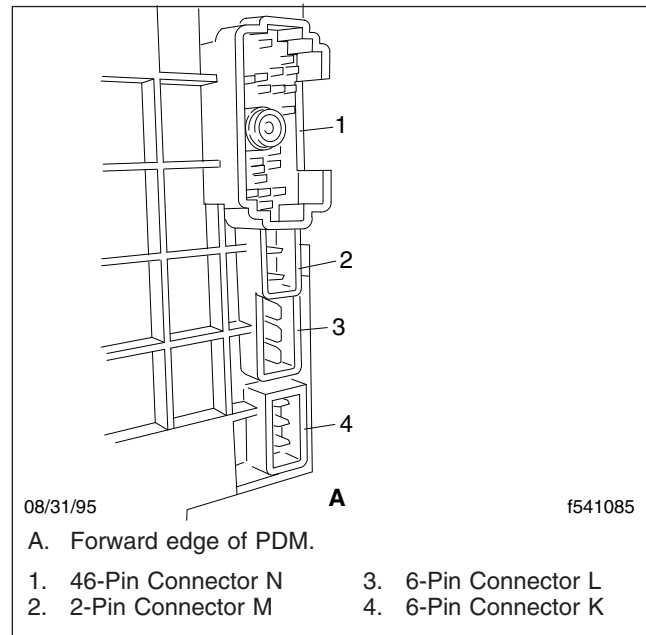

Fig. 4, Pin Connectors (bottom view)
- 6.6 Remove the electrical pins and connectors from the four terminals at the bottom of the PDM, including the large 46-pin connector N. See Fig. 4.
- With the PDM tilted upwards, install the connectors to the bottom of the PDM. Attach the 7-mm capscrew to 46-pin connector N. See Fig. 4.
For location of pin connectors on the top of the main PDM, see Fig. 2. For position of individual pinouts on pin connectors A through G (main PDM—left-hand side), see Fig. 3. For position of individual pinouts on pin connectors H and J (main PDM—right-hand side), see Fig. 4.